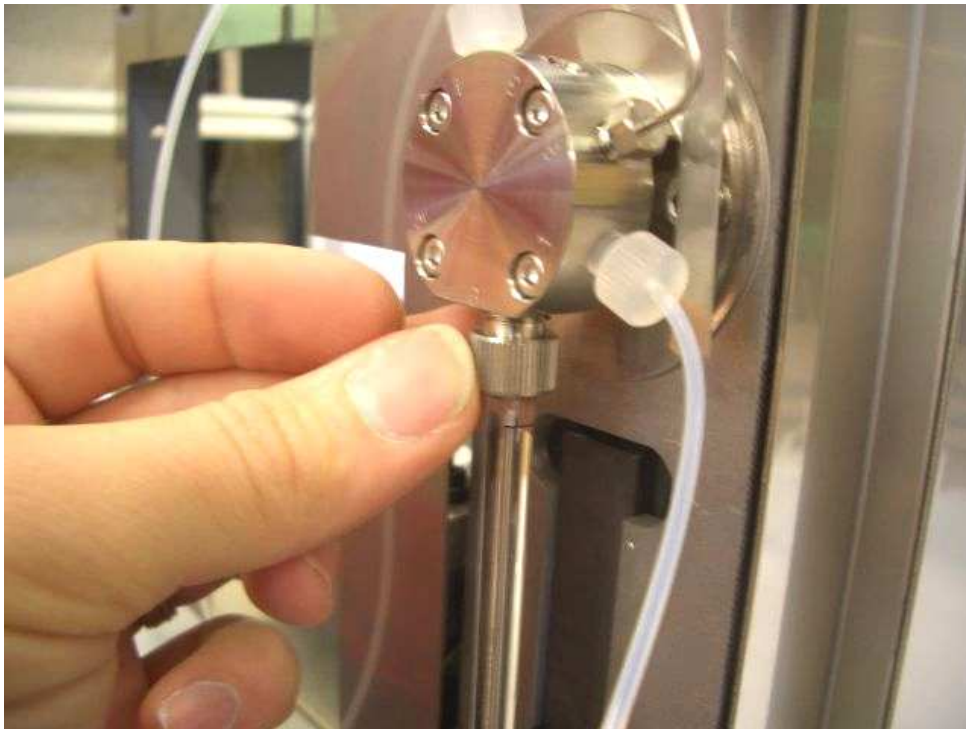

Figure 7: Top nut on the Syringe
8. Undo the nut at the top of the 100uL syringe (*Fig. 7*). To remove the syringe, slide the carriage down and pull the syringe forward to release. Try to keep the syringe vertical when removing.